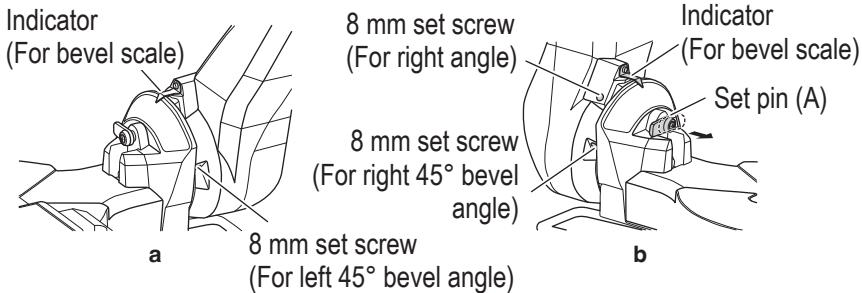

Fig. 9
When changing the adjustment, change the height of the 8 mm set screws by turning them. (**Fig. 9-a**, **Fig. 9-b**)
To change the bevel angle to the right at 45°, move the sub fence (A) outward and loosen the bevel lock handle, then pull out the set pin (A) toward the front, and tilt the motor head to the right. (**Fig. 9-b**)
When adjusting the motor head to 0°, always return the set pin (A) to its initial position as shown in **Fig. 9-b**.